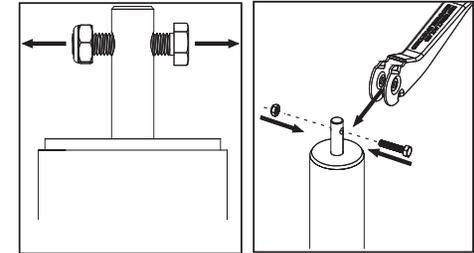

Fig. 1
5. As shown in Figure 1, remove the nut and bolt from the top of the jack using a 10mm wrench.